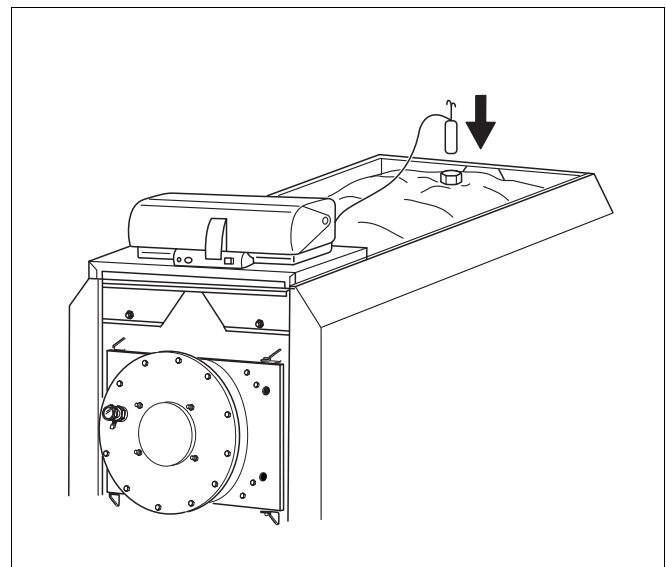

Fig. 28 Sensor into sensor well
- Route the capillary tubes and sensor to the sensor well (Fig. 28).
- Feed sensor into the sensor well (test port M, → page 10 in Fig. 3) until it bottoms out (Fig. 28).